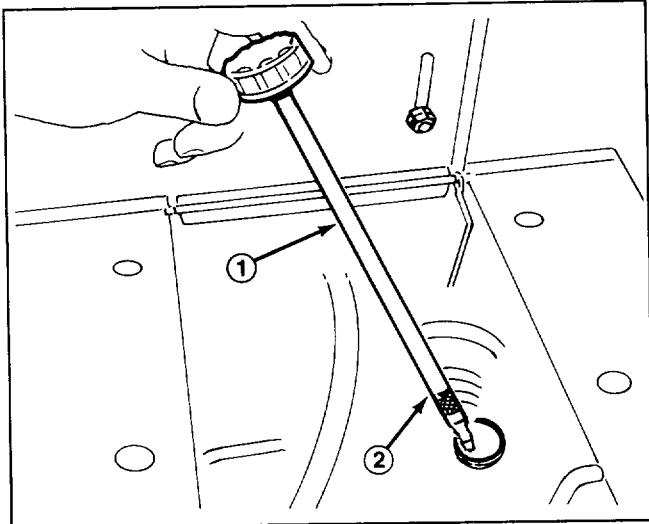

Figure 4
3. Remove dipstick from fill tube (Fig. 4).
5. Slowly pour oil into crankcase (Fig. 4). The engine uses any high quality detergent oil having the American Petroleum Institute — API — "service classification" SF or SG. Oil viscosity — weight — must be selected according to anticipated ambient temperature.
6. Rock the rider gently to release any air that may be trapped in crankcase. Screw dipstick fully into fill tube; then remove it and make sure that oil level is up to FULL mark on dipstick (Fig. 4). If level is low, add only enough oil to bring level up to FULL mark.